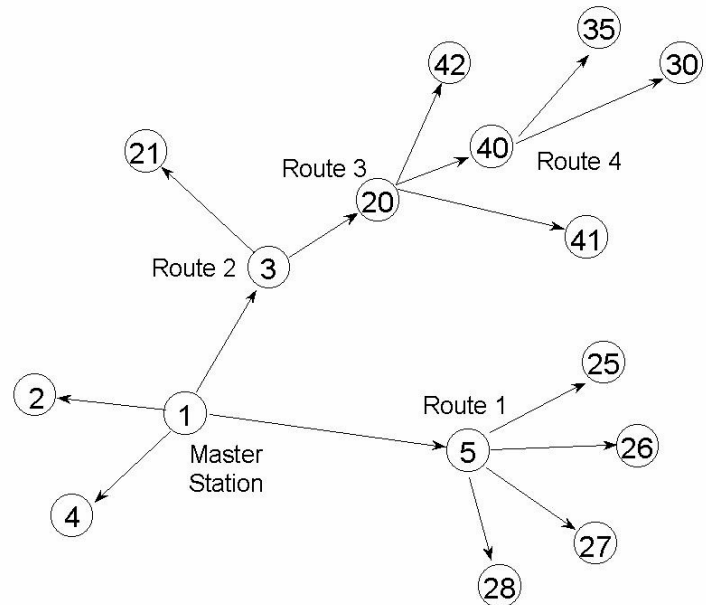
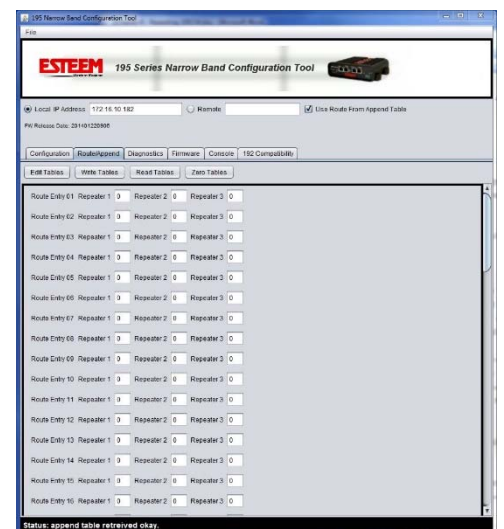

Figure 1: Repeater Example
Figure 2: Route and Append Edit
Any ESTeem Model 195C, 195M or 195H in the wireless network can be used as a repeater to reach a remote location. Manually entering repeater routes in a terminal for testing a connection (connect command) or remote programming (program command) is as simple as adding the routing in the address with the repeaters identified by commas. For example using Figure 1, if your computer is connected to the ESTeem 195C/M/H at the Master Station and you want to connect to address 21, your command would be “connect 3,21”. Also if you wished to connect to address 30 from the Master Station your command would be “connect 3,20,40,30”.
Figure 1 shows a complex, 16 node site with four (4) repeater routes. This example will illustrate the terms used in the utility and how they correspond to the stations in your site.
Look in Figure 1 and note that four of the ESTeems will relay the radio signal for other ESTeems (addresses 3, 5, 20 and 40). These are the repeater routes. A total of four repeater routes will need to be completed for this site.
Route 1: To complete the first repeater route entry, refer to Figure 1 and find repeater address 5 (Route 1). The ESTeem/PLC addresses that use this route are addresses 25-28. In the 195C/M/H Configuration Utility select the Route/Append tab and press the *Edit Tables* button (Figure 2 will be displayed). In Route Entry 01 enter the
Route 2: Refer to Figure 1 and find Route 2. This route has a repeater address of 3 and addresses 20 through 21 use this route. **Note:** *Although address 20 is a repeater for another route, it requires an ESTeem address and needs to be counted.* Type 3 in the first repeater block, 20 in the first address field and 21 in the second (Figure 4).